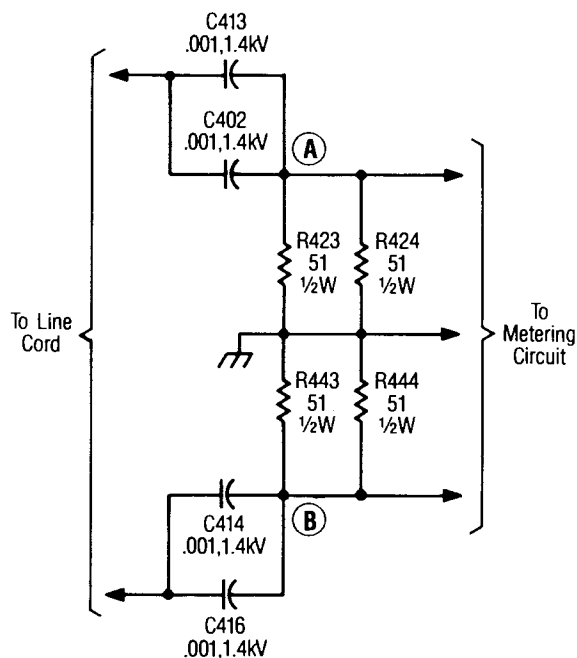

Fig. 28. Schematic for **LOAD** meter function calibration.
1. Connect one lead of the signal generator to point A and the other lead to point B as defined in Fig. 28.